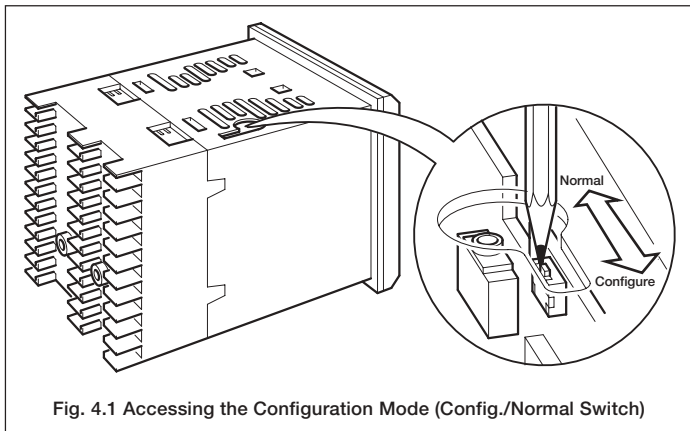

Fig. 4.1 Accessing the Configuration Mode (Config./Normal Switch)
4.2 Accessing the Configuration Mode – Fig. 4.1